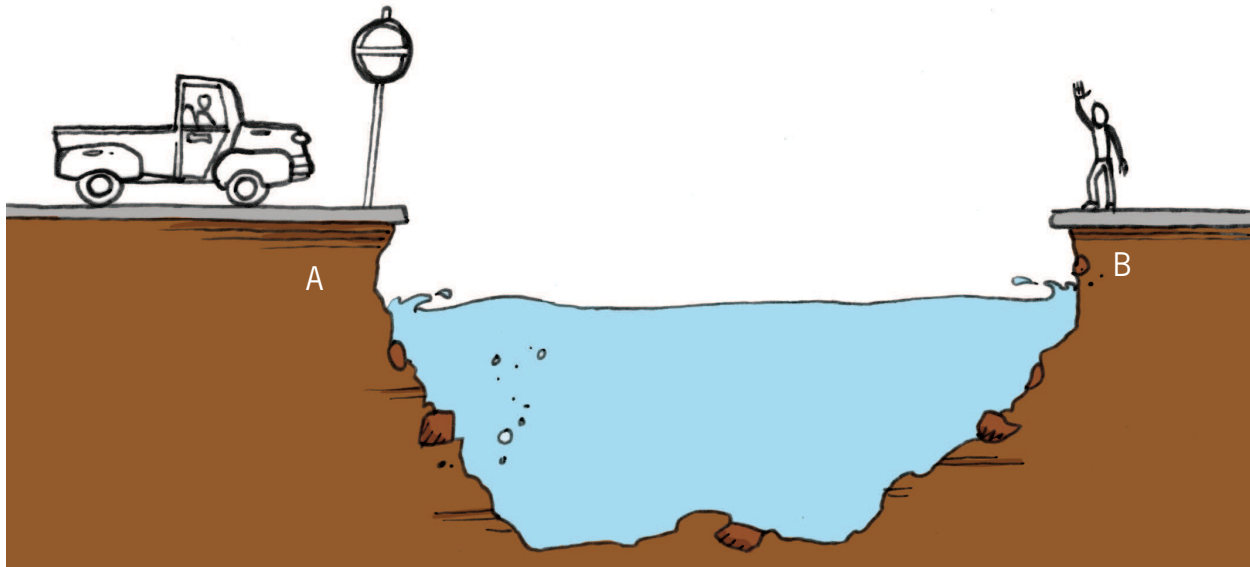

Figure 15
Look at Figure 15. A bridge needs to be built so that people can cross a river. The distance from point A to point B above is about 30 metres.
1. Make a drawing on Figure 15 to show what the bridge could look like.